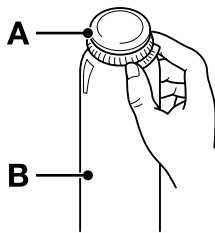

Fig 182.
- 3 With the Butane heater assembly, seal the connection. ⇒ Fig 182. (C-175).